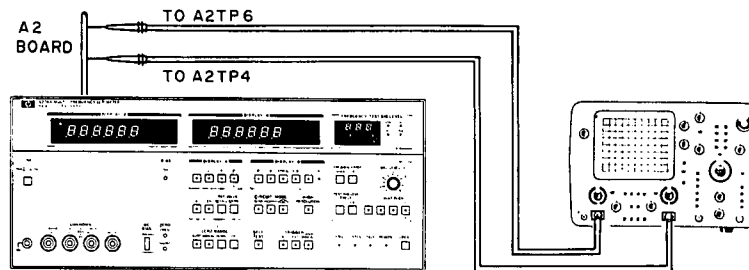
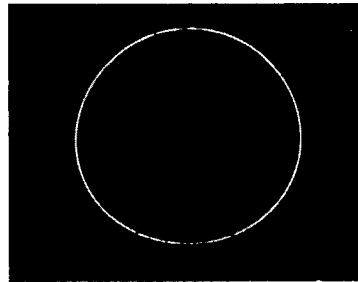

Figure 5-8. A2 90° Phase Adjustment.
Figure 5-9. Lissajous Waveform.
- e. Connect channel A input probe to A2TP6 and channel B input probe to A2TP4 as shown Figure 5-8. The Lissajous figure displayed should be as shown Figure 5-9.